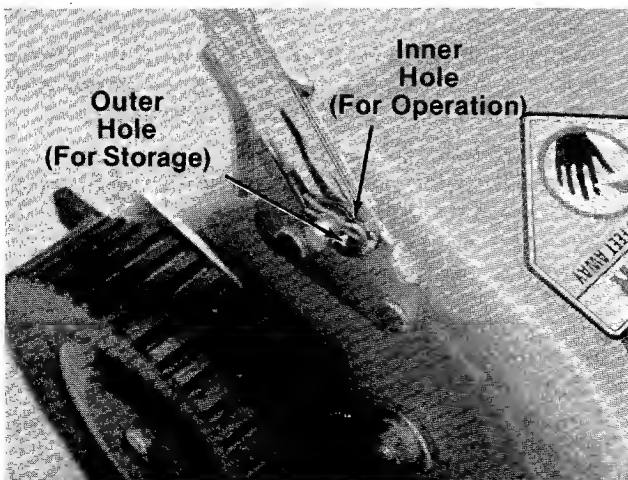

FIGURE 3.
← There are two (2) holes in the handle mount brackets. Place hairpin cotter in the inner hole for operation. The outer hole is for storage. See figure 3.